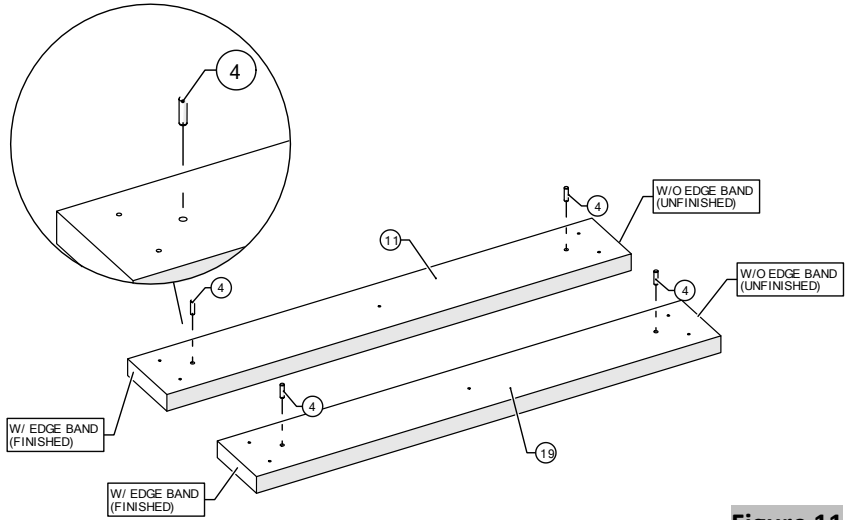

Figure 11
12. Push the wooden dowels into the pre-drilled 8 mm holes of the modesty cleat, and waterfall cleat, and then lightly tap with a rubber mallet to hold them firmly (Figure 11).